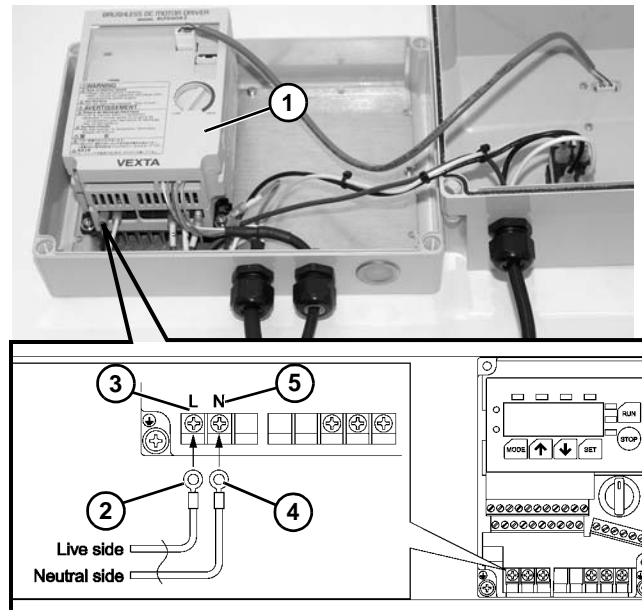

Figure 9
2. Remove controller cover (Figure 9, item 1).
3. Connect black (live side) (Figure 9, item 2) to L (Figure 9, item 3) and white (neutral side) (Figure 9, item 4) to N (Figure 9, item 5) wires on controller.